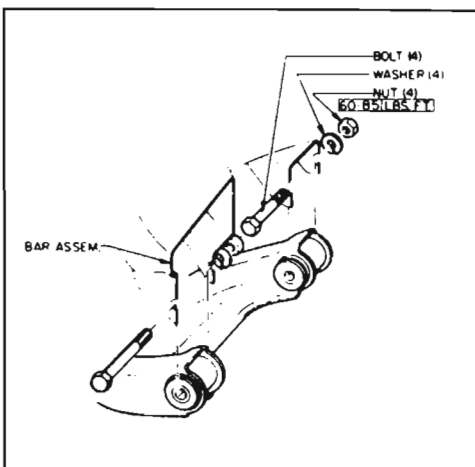

Figure 7-27—Lower Control Arm Detail
2. Remove the two nuts and lock washers attaching the control arm to the frame. See Figure 7-27.
2. Install arm with the bolt heads to the front of the car. See Figure 7-27.